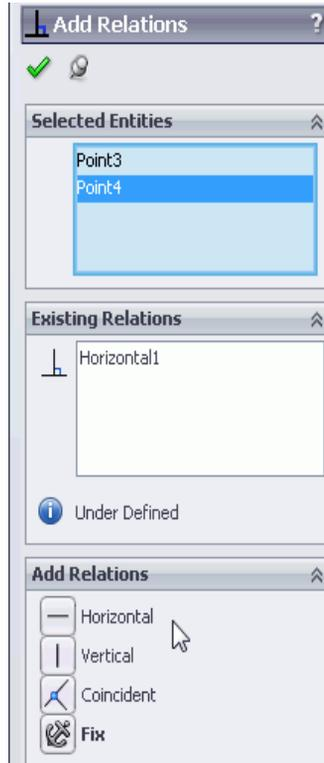

Figure 19 Adding a horizontal relation on the Add Relations PropertyManager
- 15 Click **Horizontal** on the PropertyManager, under **Add Relations**. See Figure 19.